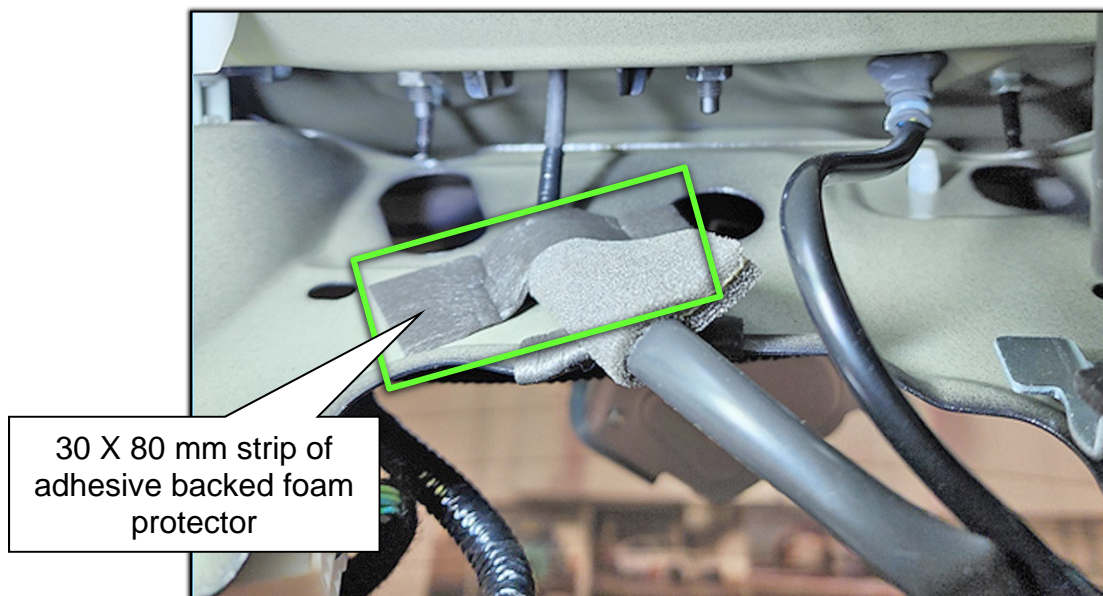

Figure 17
- b. Apply the foam protector to secure the rear camera's wiring harness to the back door where shown in Figure 17.